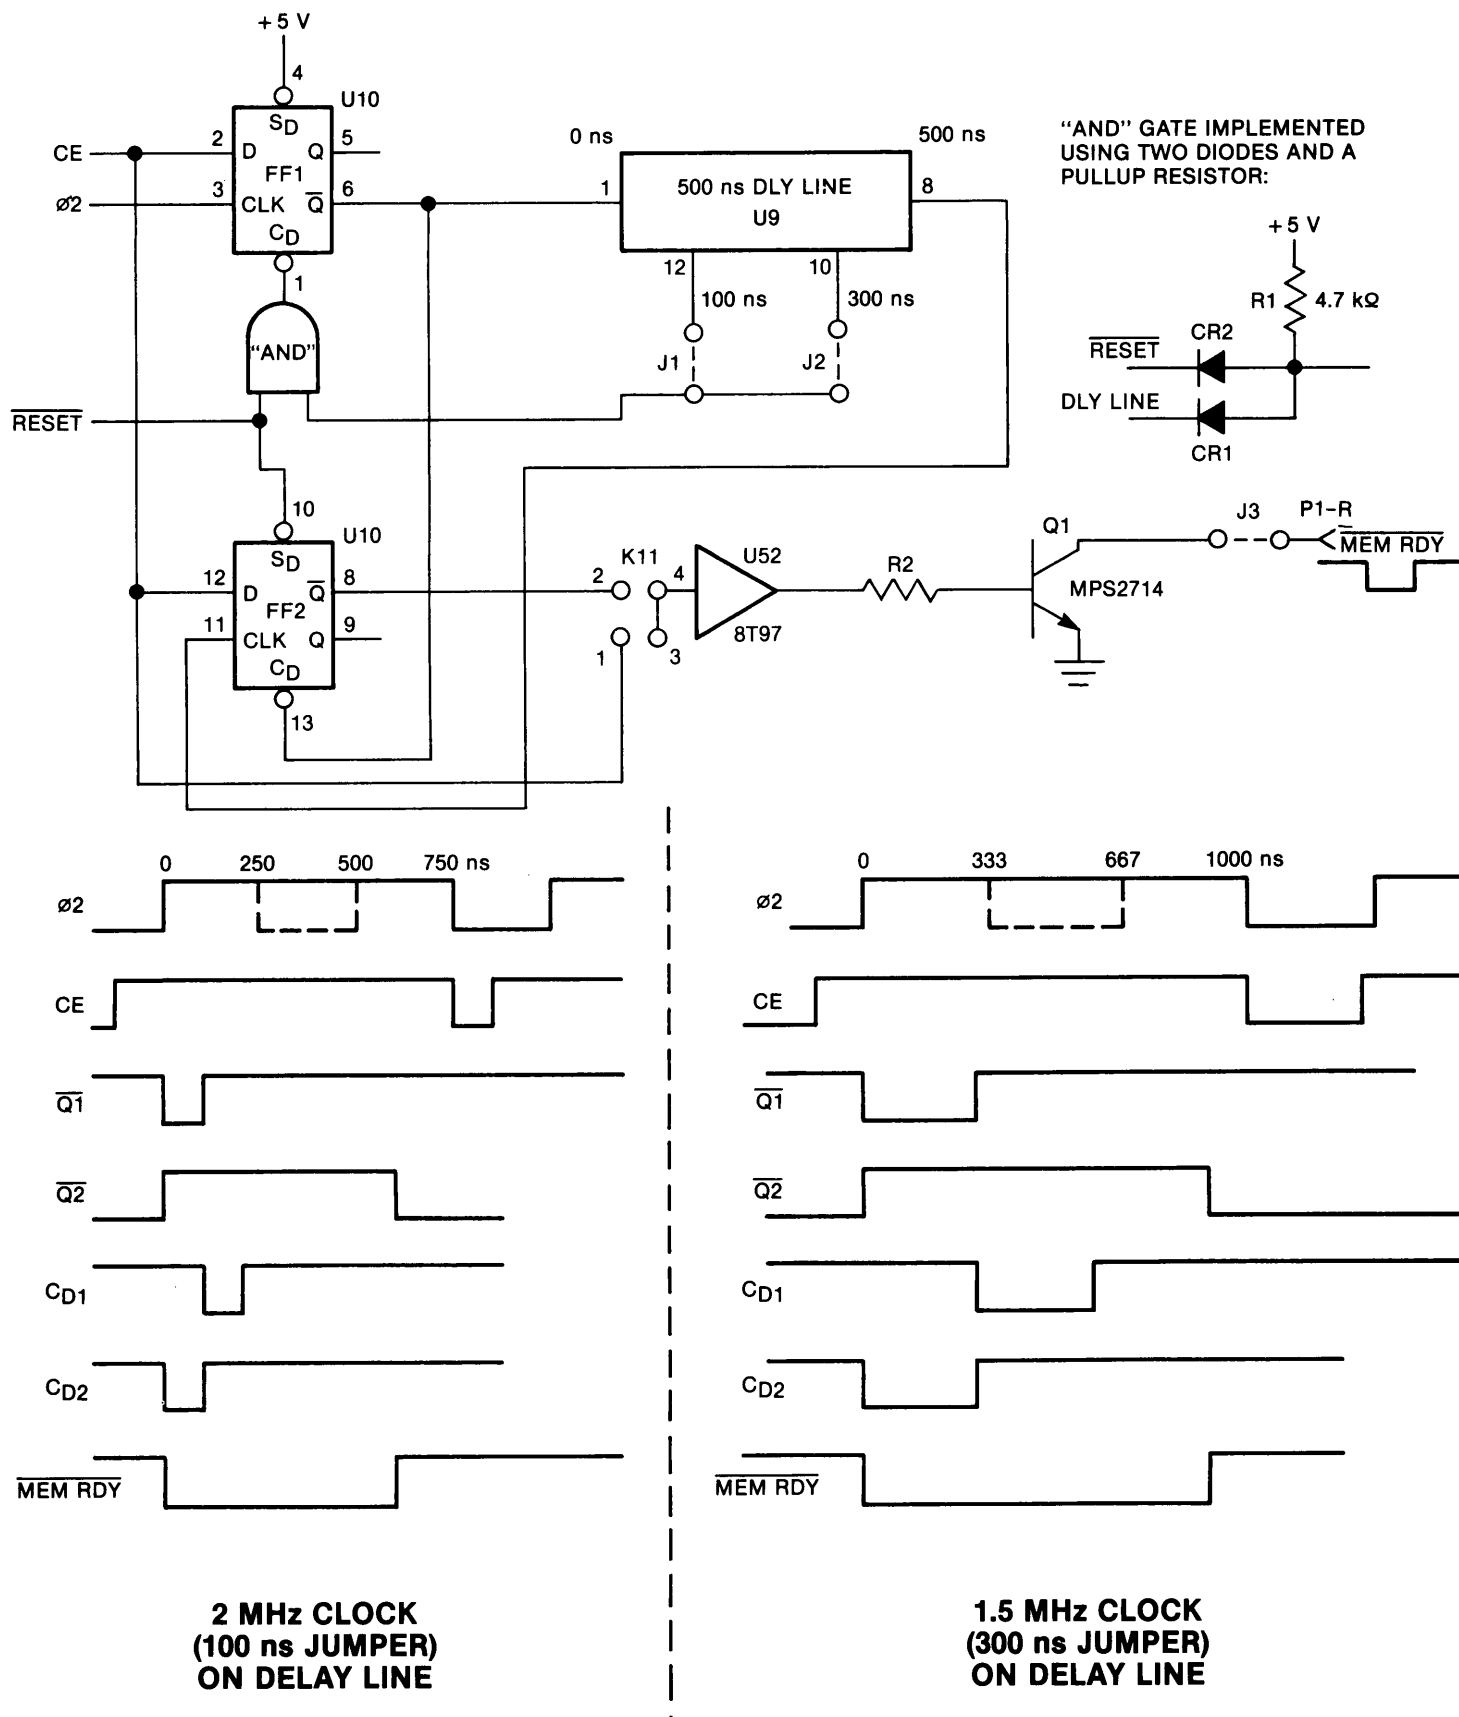

FIGURE 3-2. Slow Memory Circuits and Timing
When a system employing an MC6871 clock chip is used (or any other clock except that used on the MPU II board), the output of the timing circuit drives the 8T97 via K11 pins 2 and 4. Figure 3-2 shows a schematic representation of this circuit, as well as the associated waveform timing diagrams. This circuit guarantees that (1) MEM RDY is low prior to the normal falling edge of Ø2, and that (2) MEM RDY will only remain low for a predetermined time period, ensuring that there will be no system latch up. This type of circuit could not be used with an MPU II Module because the CE signal is clocked in on the rising edge of Ø2 (in MM04A), and would not be present on the bus in time. For 1.5 MHz operation, a jumper at J2 should be installed on the delay line U9. For 2.0 MHz operation, the jumper should be installed at J1.